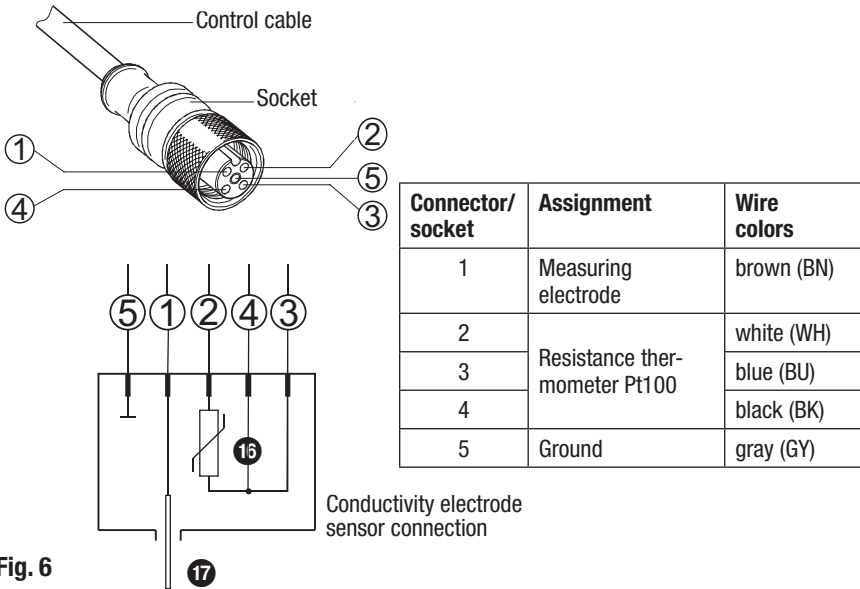

Fig. 6
The LRG 16-9 conductivity electrode is equipped with an M12 A-coded, 5-pole sensor connector, see **Fig. 6** for assignment. A pre-wired control cable (with connector and socket) is available in various lengths as an accessory for connecting the electrode.
- If you are not using the pre-wired control cable, you must connect a socket to the connecting cable, as shown in the wiring diagram **Fig. 6**. Please pay attention to the installation instructions of the socket manufacturer.